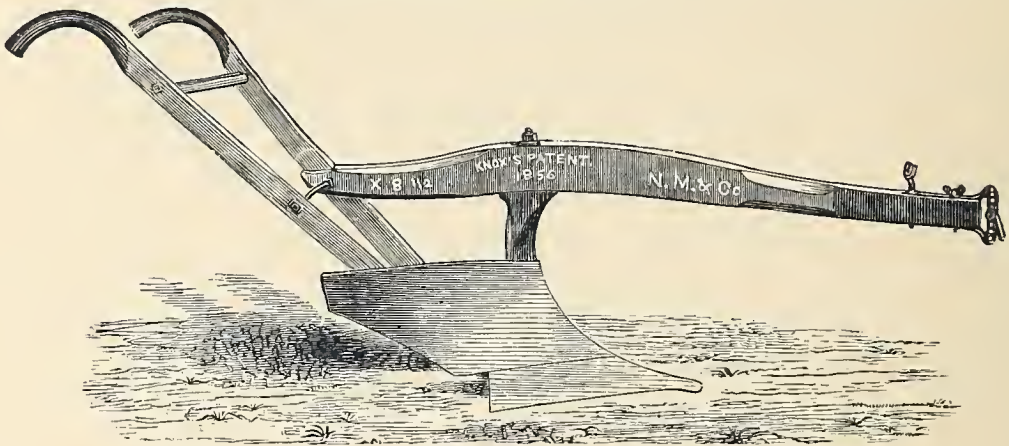

Fig. 274. — Boston Steel Clipper Plow, X 8 1-2.
*Boston Steel Clipper Plow, X 8 1-2*, represented by Fig. 274, is made extra high in the standard, and is specially designed for prairie or old-land plowing. It has